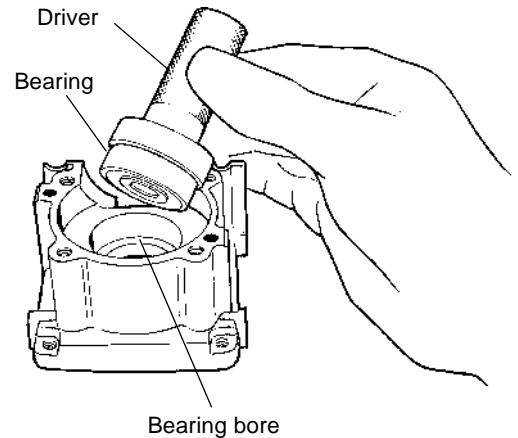

Figure 8.12 Installing a bearing with a driver.
STEP 1. Drive the bearing into the crankcase using the appropriate bearing driver and a dead-blow mallet, until the bearing contacts the base of the bearing bore (Figure 8.12).